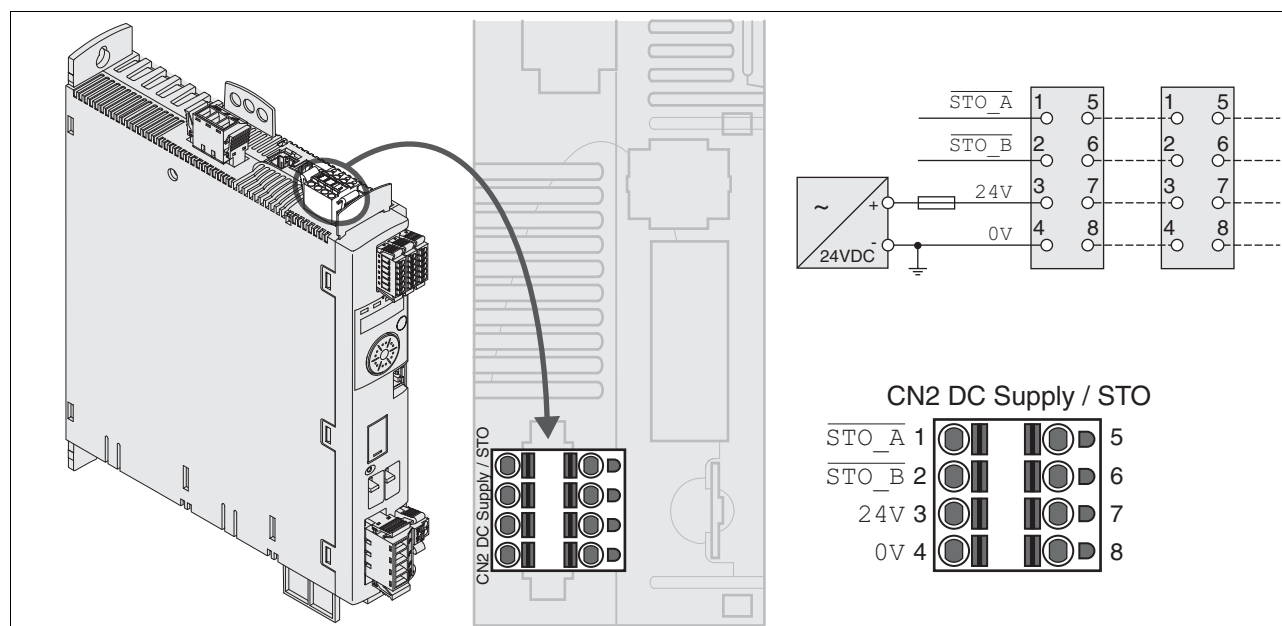

Figure 6.16 Wiring diagram controller supply voltage
- Connection CN2, pins 3 and 7 as well as CN2, pins 4 and 8 (see Figure 6.16) can be used as 24V/0V connections for additional consumers.¹ Note the maximum permissible terminal current ("Properties of spring terminal CN2").